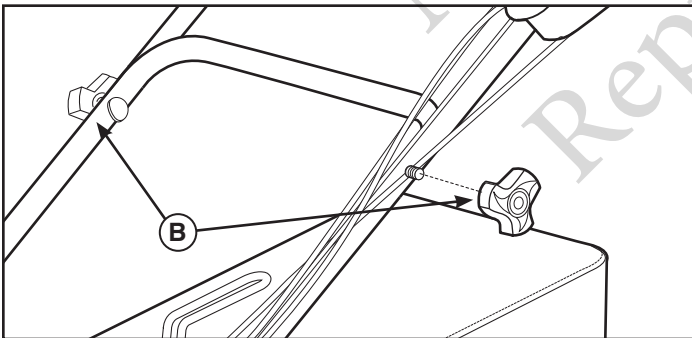

Figure 3
3. Remove the protective padding. Loosen the upper handle knobs (B, Fig. 3) securing the upper handle to the lower handle.